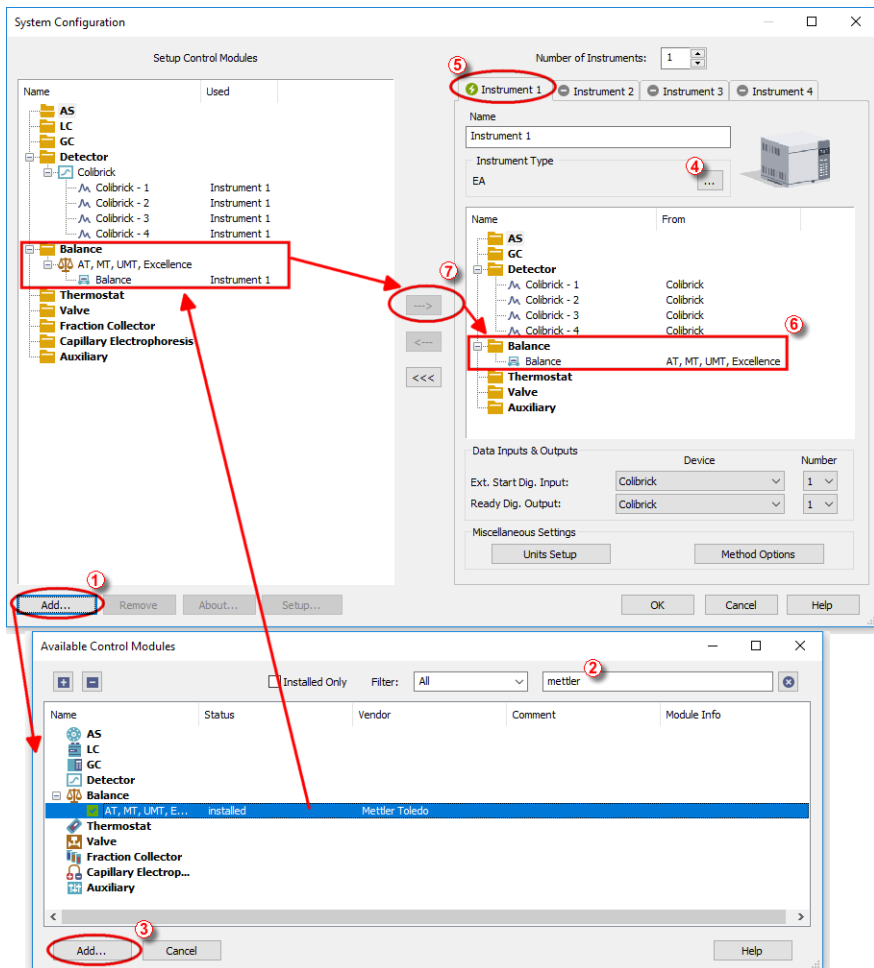

Fig 2: How to add Mettler Balances
- Press the **Add** button ① (see **Fig 2** on pg 4.) to invoke the **Available Control Modules** dialog.
- You can specify the searching filter ② to simplify the finding of the driver.